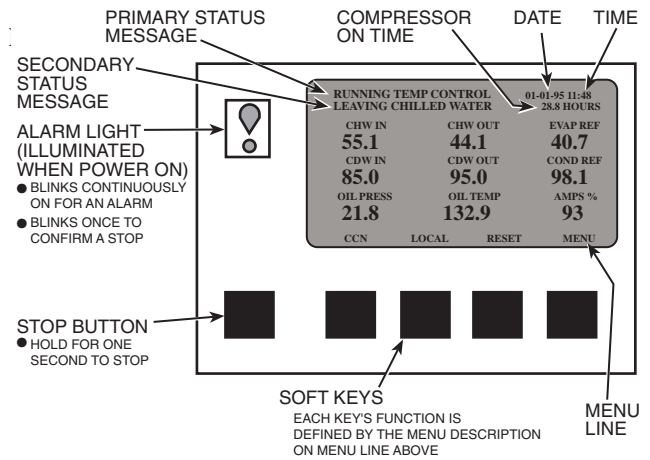

Fig. 14 — CVC/ICVC Default Screen
- The CVC/ICVC display automatically reverts to the default screen after 15 minutes if no softkey activity takes place and if the chiller is not in the pumpdown mode (Fig. 14).